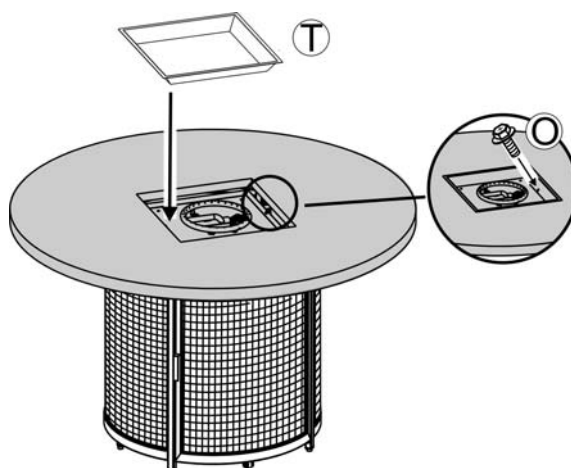

Figure 3
3. Place the burner pan protective ring into the firepan/burner assembly as shown in Figure 3. Align the holes in the burner pan protective ring with the pre-drilled holes on the firepan/burner assembly. Secure the burner pan protective ring to the firepan/burner assembly by using the two M4 screws as shown in Figure 3.